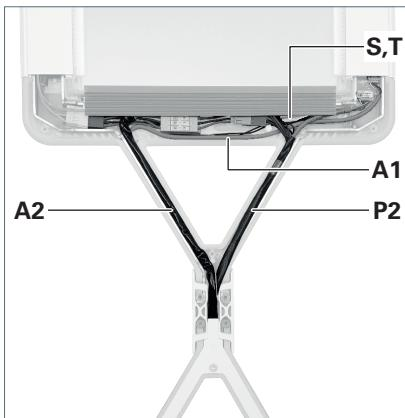

Fig. 17: Stowing the cables.
- ▶ Lay the supply cable **P2** from the column into the supporting arm of luminaire head 1, see Fig. 17.